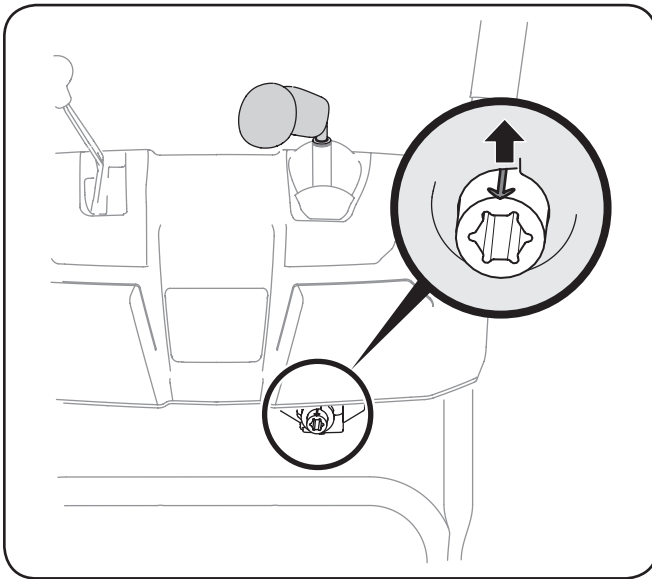

Figure 3-14
5. Rotate the joystick to the one o'clock position so that the silver indicator arrow on the pinion gear below the control panel faces upward. See Figure 3-14.